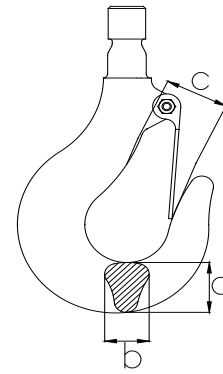

Figure 19
- Check the hook's wear with regard to support of slings or tooling, shown as "a" and "b" in figure 19. If wear is equal to or more than 10% of the original measurement, the hook must be replaced.